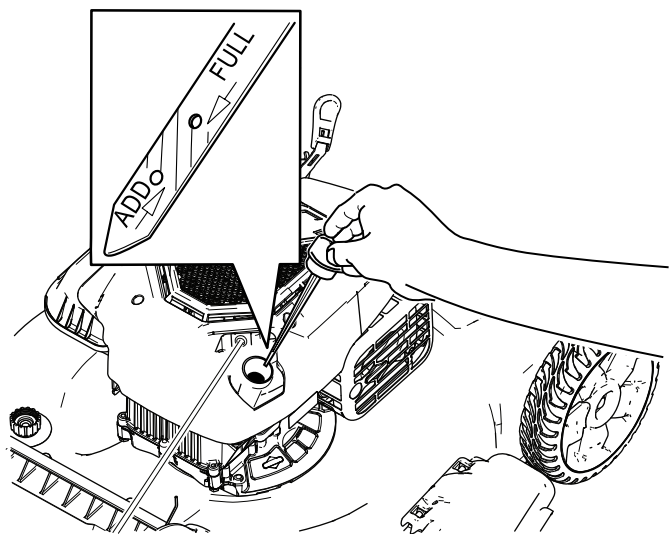

Figure 12
- Remove the dipstick by rotating the cap counterclockwise and pulling it out (Figure 12).
- Read the oil level on the dipstick (Figure 12).